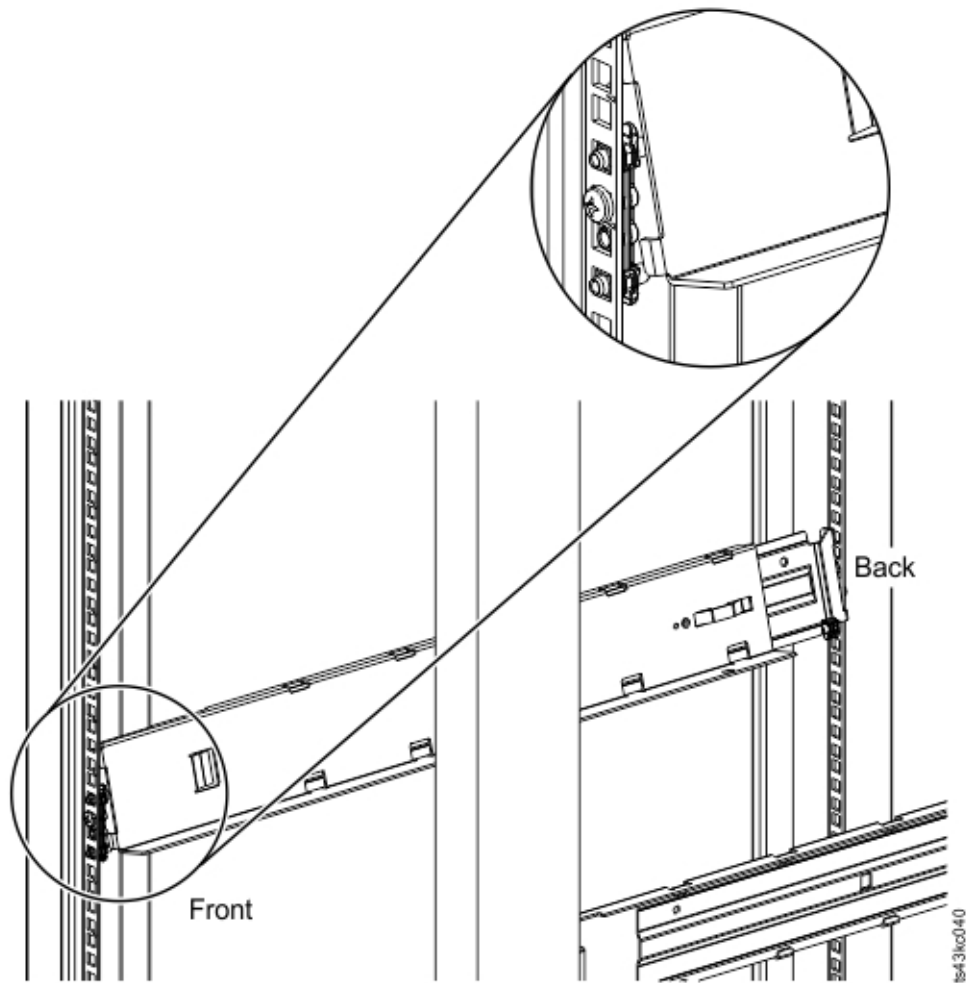

Figure 38. Mounting the rails to the connectors
d. Mount the LH Rackmount rail to the connectors. See Figure 38 on page 45.